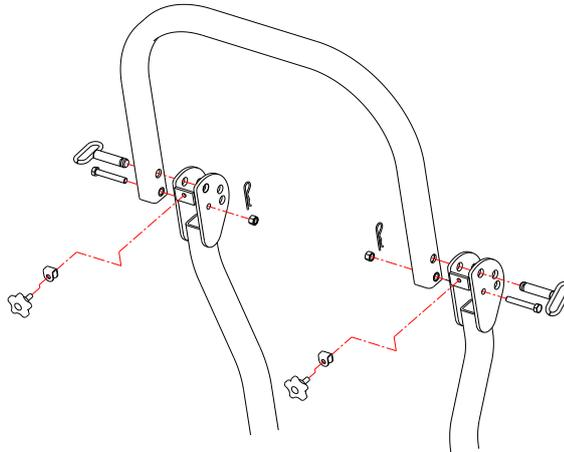

FIG 3
3.2.4 Install the upper u-shaped section of the roll bar. (As shown in Figure 3)